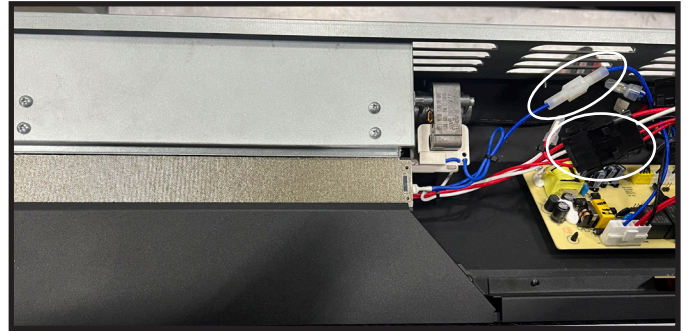

Figure 8 Heater Wire Assembly
4. Disconnect the 4-wire connector and the single blue wire connector. See Figure 8.